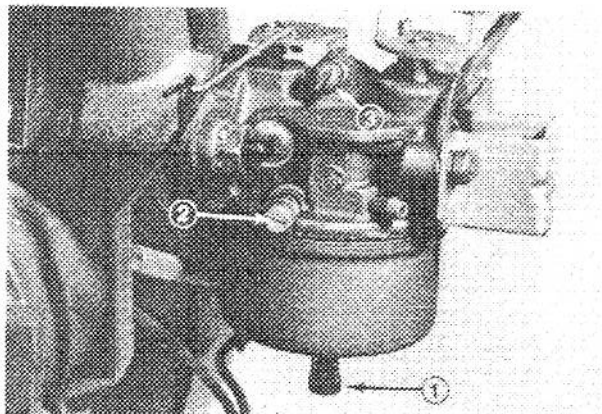

Figure 38
2. Power adjusting screw (Fig. 38) — Close screw by gently rotating it clockwise until a slight seating resistance is felt. Next, rotate power adjusting screw 1 full turn — 360° — counterclockwise.
3. Idle mixture screw (Fig. 38) — Close screw by gently rotating it clockwise until a slight seating resistance is felt. Next, rotate idle mixture screw 1-1/2 full turns counterclockwise.
5. Rotate power adjusting screw (Fig. 38) clockwise — in — 1/8 turn at a time until engine misses because of a lean gasoline mixture. Then rotate screw counterclockwise — out — 1/8 turn at a time until engine runs unevenly because of a rich gasoline mixture. Next, rotate power adjusting screw clockwise, back to the midpoint between the rich and lean setting so engine runs smoothly.
6. Move throttle to idle speed. Next, rotate idle speed screw (Fig. 38) until engine idles fast — 1750 rpm.
7. Rotate idle mixture screw (Fig. 38) clockwise — in — 1/8 turn at a time until engine begins to miss because of a lean mixture. Then rotate screw counterclockwise — out — 1/8 turn at a time until engine runs unevenly because of rich mixture. Next, rotate idle mixture screw clockwise, back to the mid-point between rich and lean setting.
8. Again, rotate idle speed screw (Fig. 38) until engine idles at 1750 rpm.